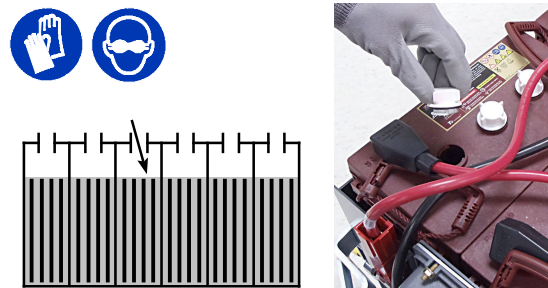

FIG. 67
1. Check the electrolyte level in all batteries (Figure 67). See BATTERIES.